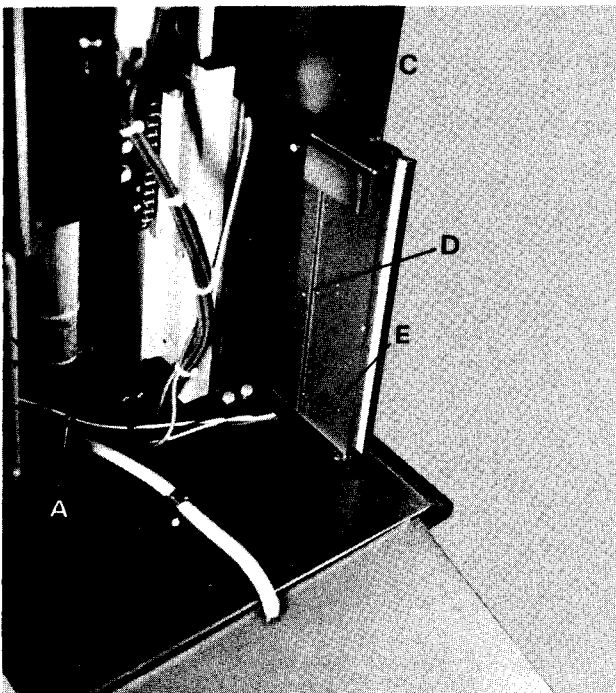
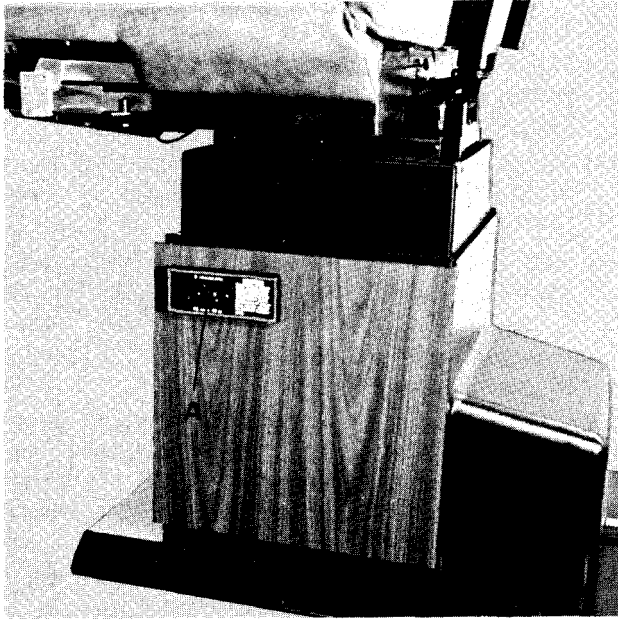

Fig. 7
Fig. 8
- 4) Loosen wire clamp, Item A, Fig. 7 and remove wires from clamp.
- 5) Remove the panel assembly by removing the (3) screws, Item B, Fig. 7, located on the bottom flange.
- 6) Remove wire raceway by removing (6) screws, Item D, Fig. 7.
- 7) Remove receptacle cover by removing cover screw, Item A, Fig. 8, and screw on back side of shroud, Item C, Fig. 7.
- 9) Remove (4) panel mounting screws, Item E, Fig. 7.
- 10) Place new table panel on metal shroud, align holes, and install (4) #6 x 1/2" screws, Item E, Fig. 7.
- 12) Replace receptacle cover, align holes, and install (1) #6-32 x 1/2" cover screw, Item A, Fig. 8 and (1) #10-24 x 7/8" screw, Item C, Fig. 7.
- 13) Replace wire raceway, align holes, and install (6) #6 x 1/2" screws, Item D, Fig. 7.
- 14) Place panel assembly on table base, align holes, and install using (3) #10 x 3/8" screws, Item B, Fig. 7.